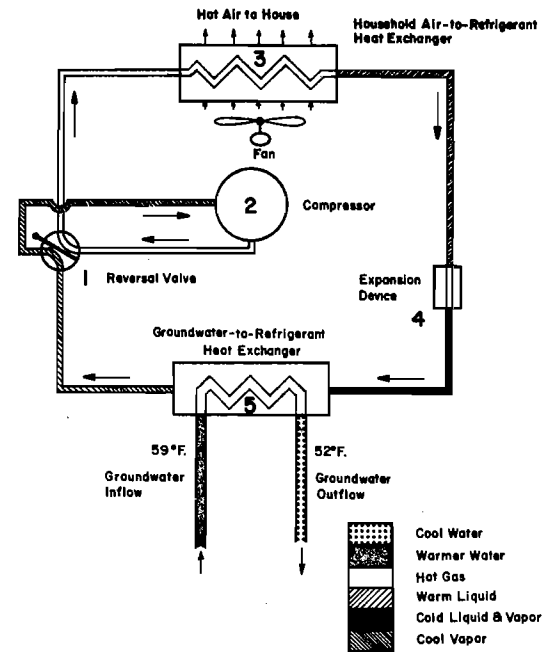

Figure 2. Heating mode water-to-air heat pump.
Now let's examine the heat pump cycle itself. When the heat pump is operating in the heating mode, as shown in Figure 2, valve (1) directs a gaseous refrigerant from compressor (2) to the air-refrigerant heat exchanger (3). Heat is removed from the groundwater and delivered into the house by blowing air over the heat exchanger. This causes the hot gas to condense to a warm liquid. The warm liquid refrigerant then enters the expansion device (4) where the pressure decreases and part of the liquid refrigerant vaporizes, becoming chilled. It passes through heat exchanger (5) where it absorbs heat from the groundwater, causing the rest of the liquid refrigerant to evaporate. The gaseous refrigerant then enters the reversing valve, and the cycle is repeated.